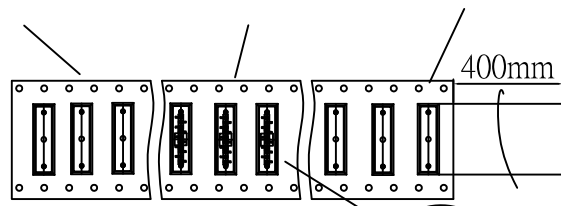

Fig.1
(1)Packaging way of each reel is shown in Fig.1.